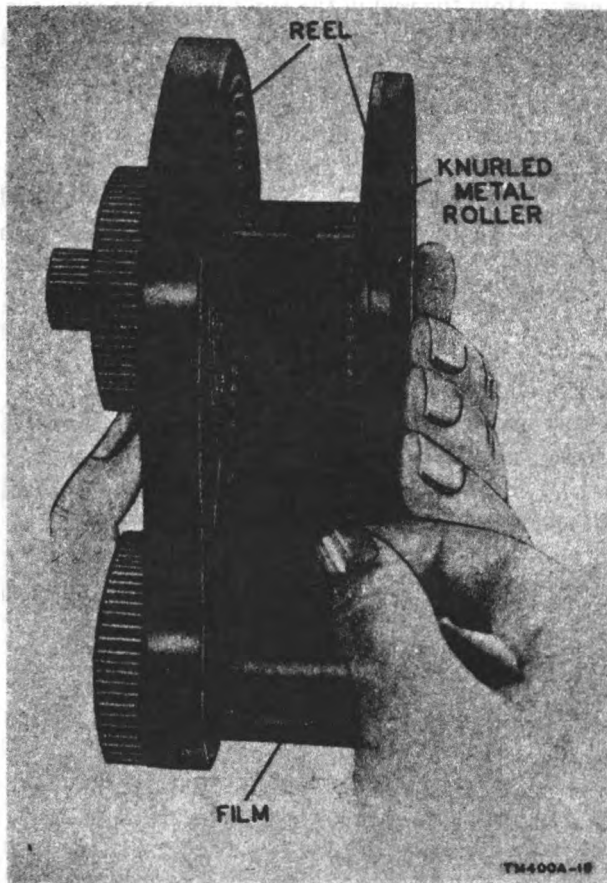
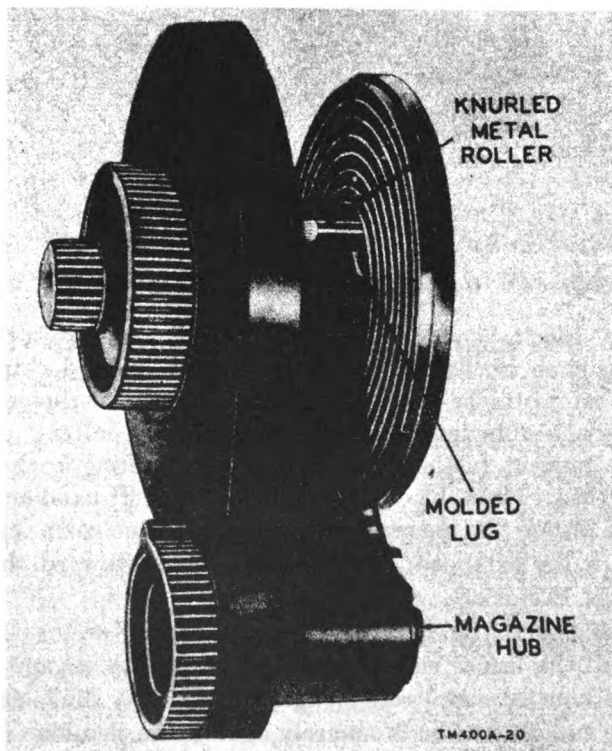

Figure 19. Reel of Tank PII-322, removed for loading.
Figure 20. Starting positions for threading.
- (1) Make the standard solutions used in developing and fixing by dissolving recommended prepared chemicals in water. Dissolve the contents of one package (2 units) of Microdol Developer, or the equivalent, in water (according to the instructions on the package) to make 16 ounces of developer solution.
- (2) Prepare 16 ounces of fixer solution by dissolving the chemical in the ratio of 1 ounce (30 grains) of chemical to 5 ounces (approximately 150 cc) of water. Be sure to follow the mixing instructions on the package when preparing these solutions.
b. Loading Processing Tank PH-322 (fig. 19).
- (1) The film leader must have the conventional cutout and must extend from the film magazine before the film can be used for development in Tank PH-322. Do not wind the leader completely inside the magazine when the exposed film is rewound in the camera. Stop the rewinding process at the point where either the film counter or the film takeup knob stops rotating. At this point, the exposed film has been rewound into the magazine, and only the leader remains outside the magazine.
- (4) To unlock the cover of the tank from the case, turn the locking knob clockwise until it springs up. The locking knob remains attached to the knurled collar. Lift the cover and reel assembly from the tank by the knurled collar.
- (5) To prevent further rotation, turn the locking knob until it latches. Hold the cover assembly in the left hand and insert the 35-mm film magazine in the hub of the magazine chamber, with the extended hub of the magazine toward the right (figs. 19 and 20).
c. Threading Reel (fig. 20).
- (1) Pull the leader end of the film forward to engage it with the knurled metal roller (figs. 19 and 20). Make sure that the end of the film is squarely against the shoulder (fig. 19) of the spiral hub and that the perforated edge of the leader is in contact with the small molded lug (fig. 20) of the bottom
flange. Hold the reel in the right hand and push the knurled roller firmly toward the magazine with the thumb of the left hand. The film may not load properly if it is not fastened in the position shown (fig. 19).